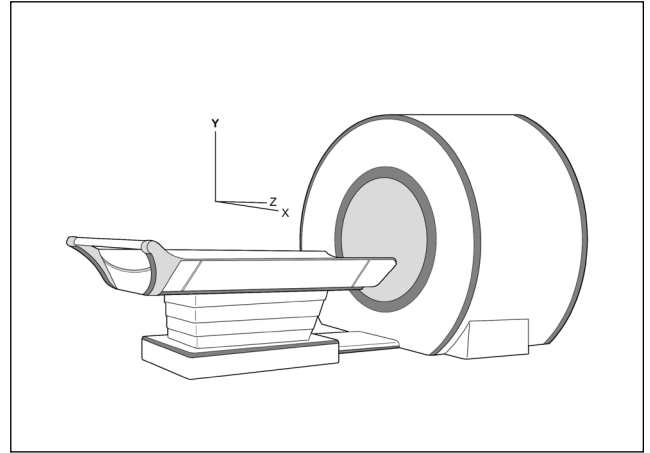

Fig. 17
1. Verify the cradle can travel the full length of the “Z” axis without issue. Repeat for both mechanical and manual movement (Fig. 17).
3. Verify the cradle can travel the full height of the ‘Y’ axis without issue (Fig. 17).